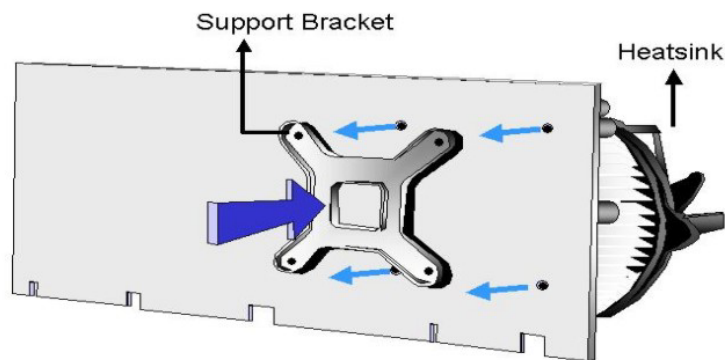

Figure 4-3: Securing the Heat sink to the PCB Board
- Step 4:** Secure the cooling kit. From the solder side of the PCB, align the support bracket to the screw threads on heat sink that were inserted through the PCB holes. (See Figure 4-3)